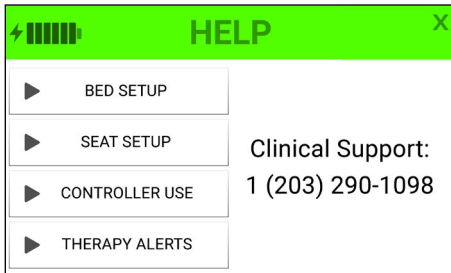

Figure 12. Video menu screen
3. A menu will appear. Press any topic to view the corresponding tutorial video. (Fig. 12)